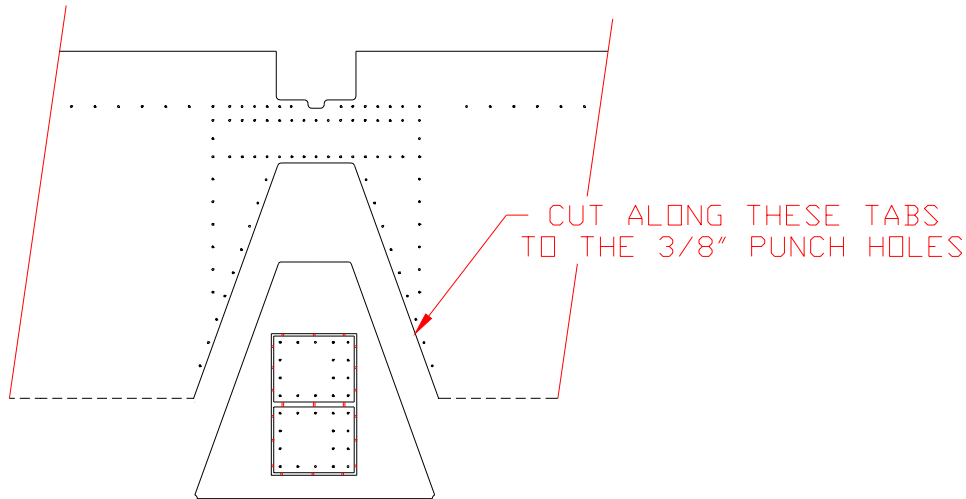

Figure 3.4.10
- 32) Cut the center from the Elevator Skin and smooth the edges with a file. Figure 3.4.10. Remove the inspection covers from the cut out and file smooth.